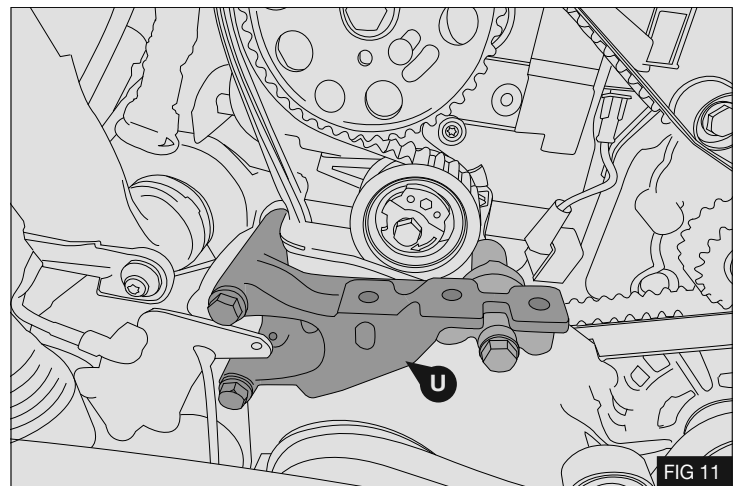

FIG 11
15. Carefully remove the engine timing belt upper cover (R). - Fig 11
16. Remove and discard the engine mount (U) and its fasteners.
- Fig 11